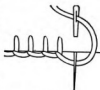

FIGURE 40
*Blanket Stitch* (Figure 40). — This stitch is used to decorate and protect the edges of materials, especially of woolens. After concealing the knot stitch on the wrong side of the material, draw the needle to the edge of the material, holding the thread with the left thumb and the left index finger. Work from left to right. Insert the needle from the edge to the desired length of the stitch. The width may be varied in keeping with the article. Many interesting designs may be worked out by varying the grouping of the length and width of the stitches.
$\frac{1}{8}$  inch, being careful not to stretch them. Baste the pieces to the garment and finish with the blanket stitch (Figures 40, 42).